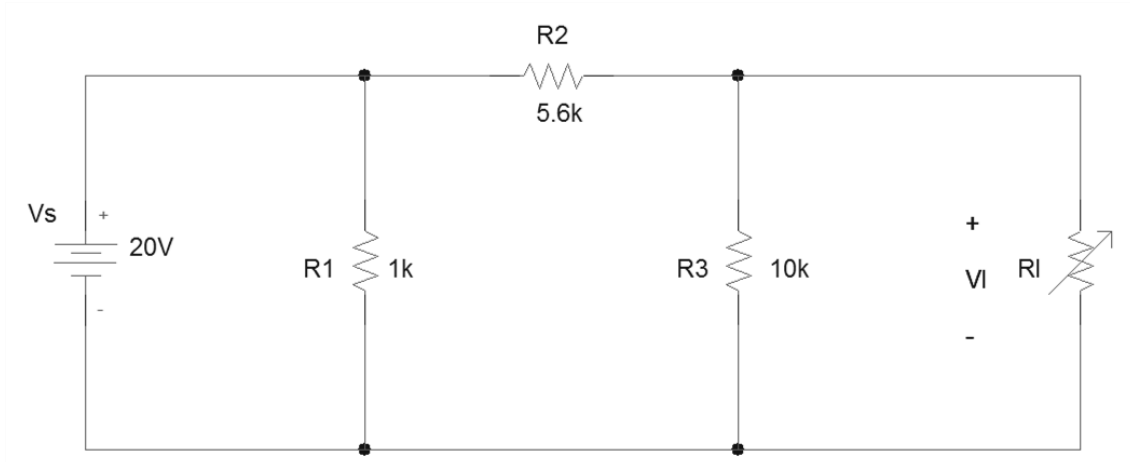

Fig. 5: Circuit for verifying maximum power transfer theorem
- Set up the circuit as shown in Fig. 5.